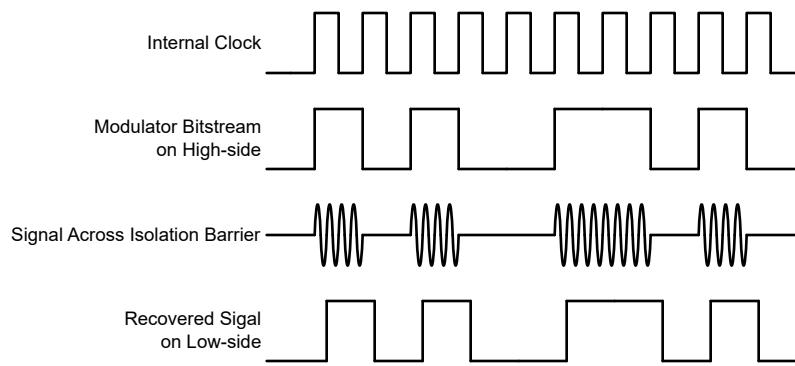

Figure 7-1. OOK-Based Modulation Scheme
As shown in Figure 7-1, the AMC0x11R-Q1 uses an on-off keying (OOK) modulation scheme to transmit the modulator output bitstream across the SiO_2 -based isolation barrier. The transmit driver (TX) is illustrated in the Functional Block Diagram. TX transmits an internally generated, high-frequency carrier across the isolation barrier to represent a digital one. However, TX does not send a signal to represent a digital zero. The nominal frequency of the carrier used inside the AMC0x11R-Q1 is 480MHz.